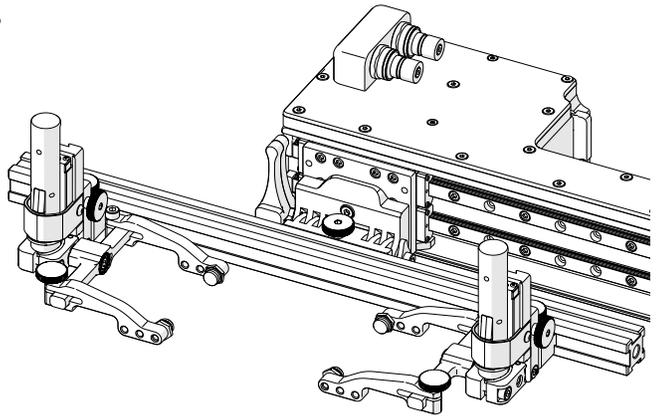

Fig. 65 - Mount probe holders
5. Follow the steps (see "Probe Holder Setup" on page 35) to mount and set up the vertical probe holders (Fig. 65).